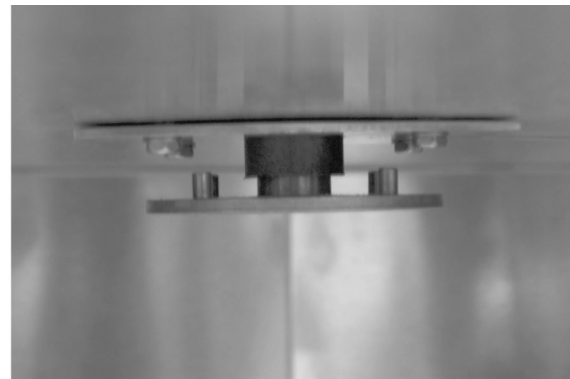

**Fig. 48**
3. Lift up on bottom plate and remove from the four shoulder bolts. Remove bottom plate from oven cavity. See figure 48.